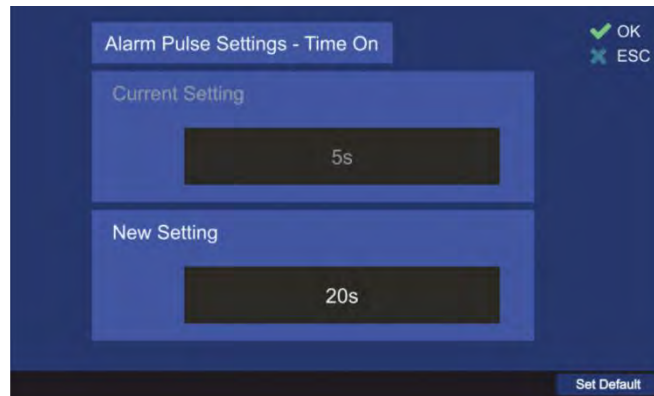

Figure 93. Time on Dialog
- o To change the "Time On"- time, press the hotkey "Edit Value". The related dialog will open (s. Figure 93).